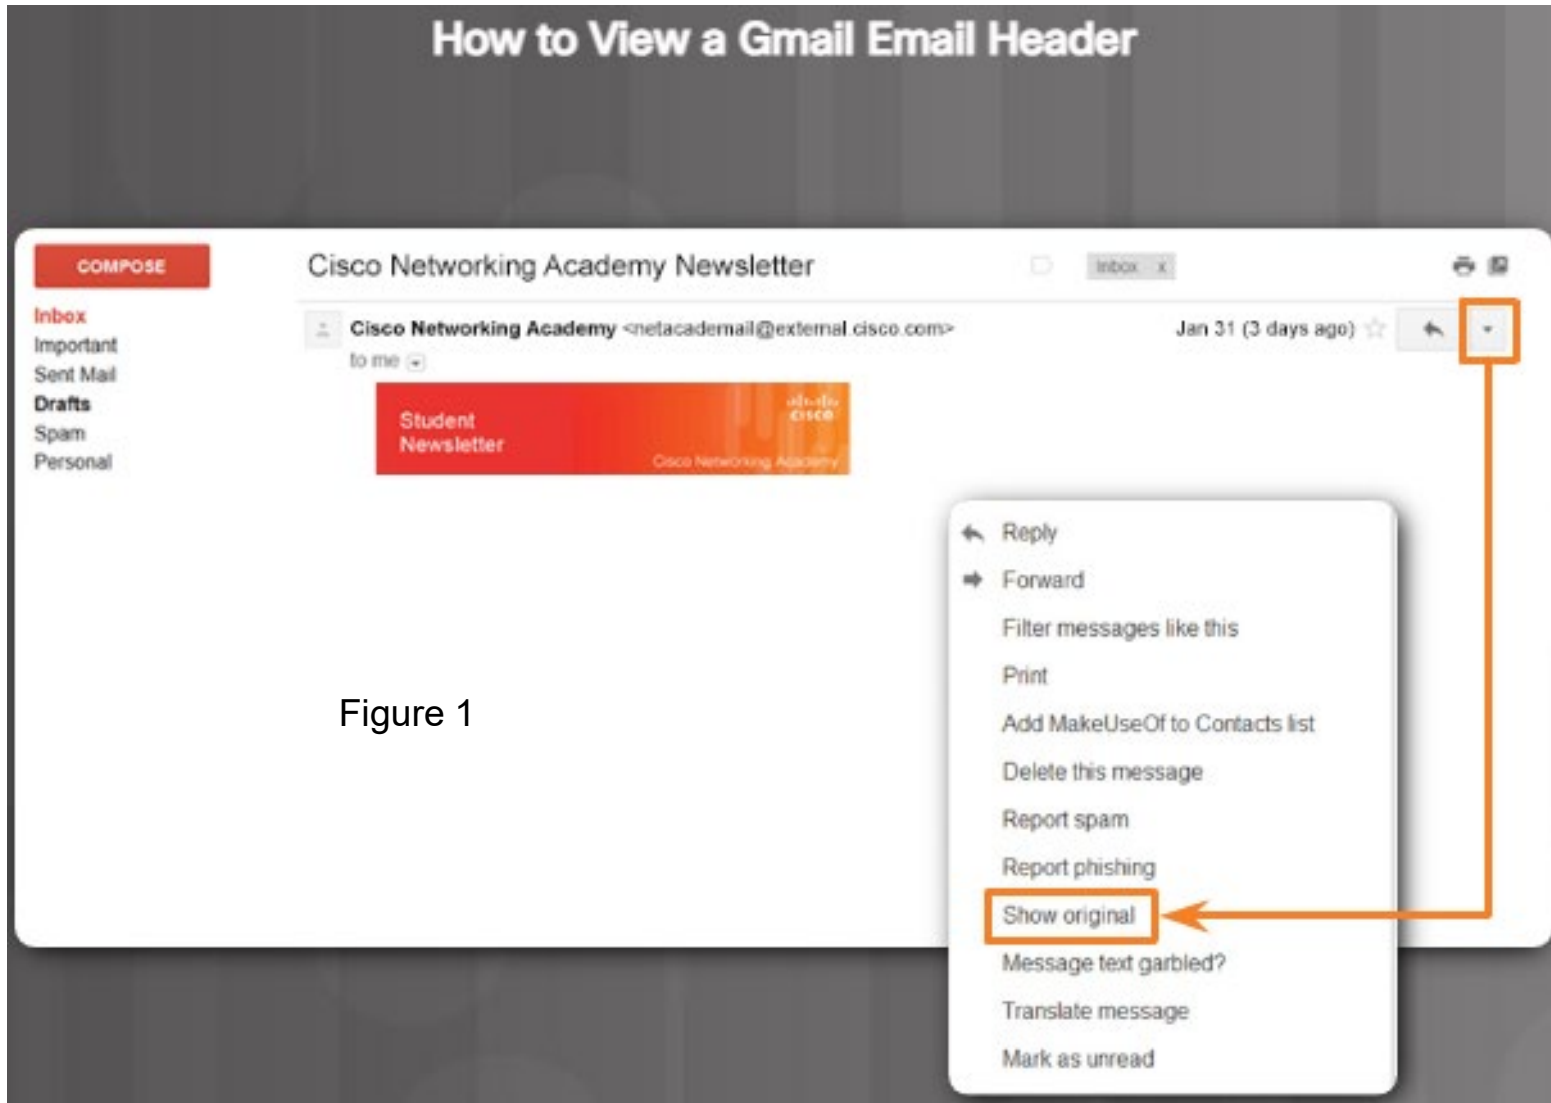

Figure 1
- Figure 1 represents a well-known example of a client that will use the HTTP protocol to communicate with the Web Server. The web server is configured and managed to allow people to interact with a web page.
- Figure 1 shows how to view a Gmail header and Figure 2 shows an example of metadata preceding an email.